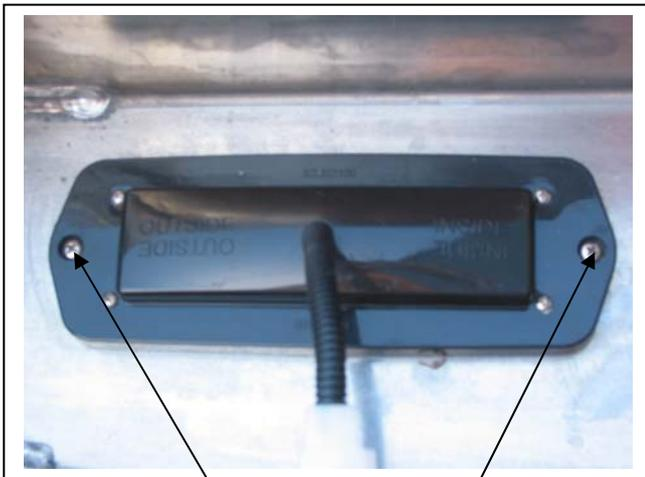

Figure 1
4. Fit ECB LED indicator / park lights (supplied) into protection bar as per instructions supplied with the LED indicator kit. **NOTE: Ensure park light is to outside. See figure 1.**